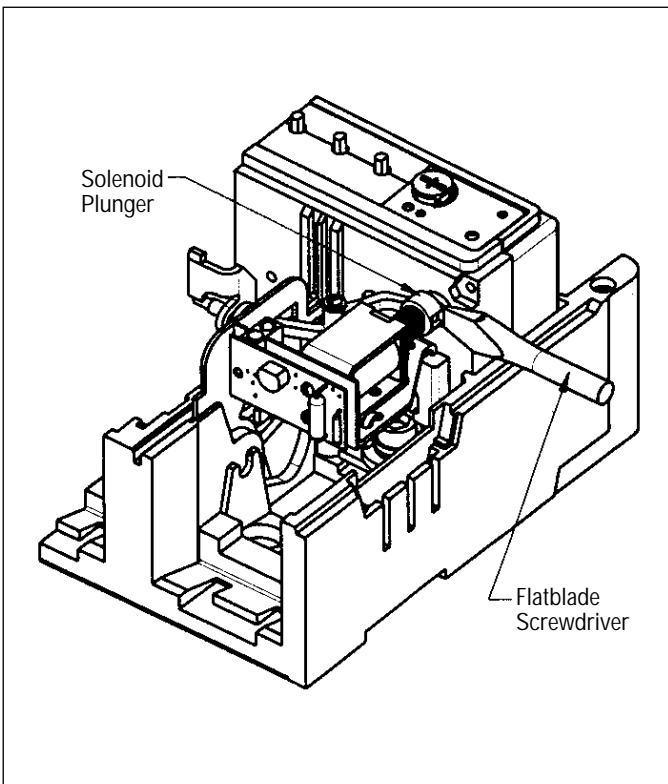

Figure 2-6 Screwdriver Depressing Undervoltage Release Mechanism Solenoid Plunger
- b. Mechanical check. Using a small flat-blade screwdriver, (Figure 2-6), push in and hold solenoid plunger. Switch circuit breaker to ON. Release solenoid plunger and check that circuit breaker trips.